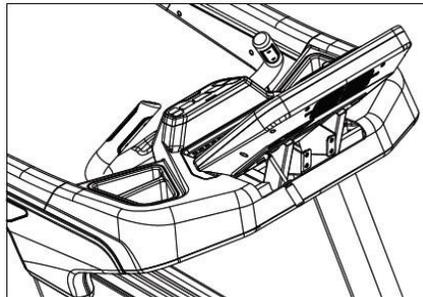

Figure 4.1.2
- 5) As shown in Figure 4.1.2, remove the electronic control cable connector and use a cross screwdriver to remove the console.